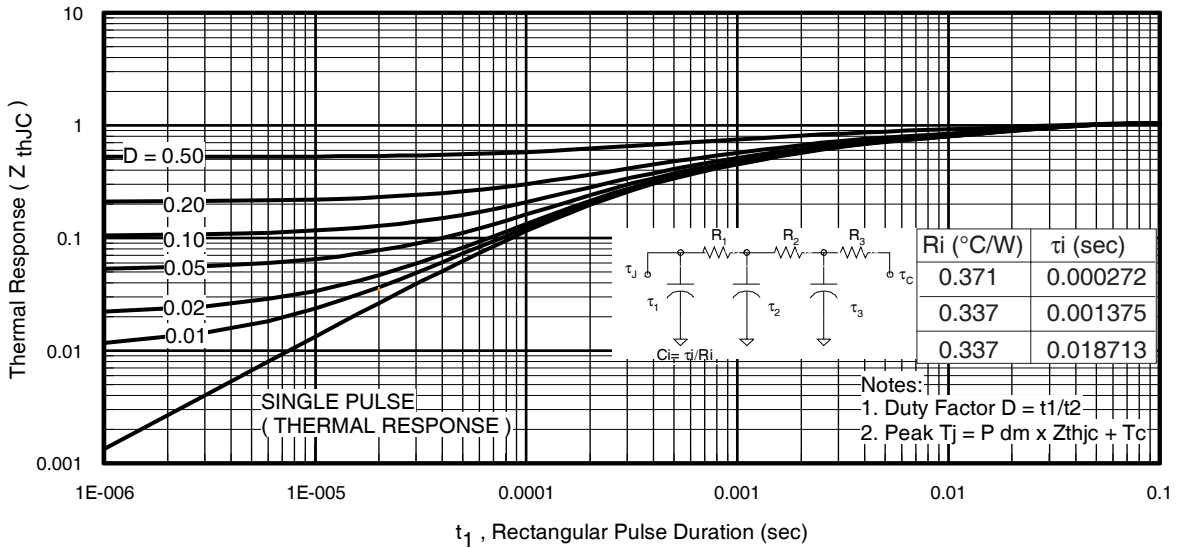

Fig 11. Maximum Effective Transient Thermal Impedance, Junction-to-Case
$Z_{thJC}(D, t_{av})$ = Transient thermal resistance, see figure 11)
- ① Repetitive rating; pulse width limited by max. junction temperature. (See fig. 11).
- ② Limited by T_{Jmax} , starting $T_J = 25^\circ C$, $L = 0.04mH$